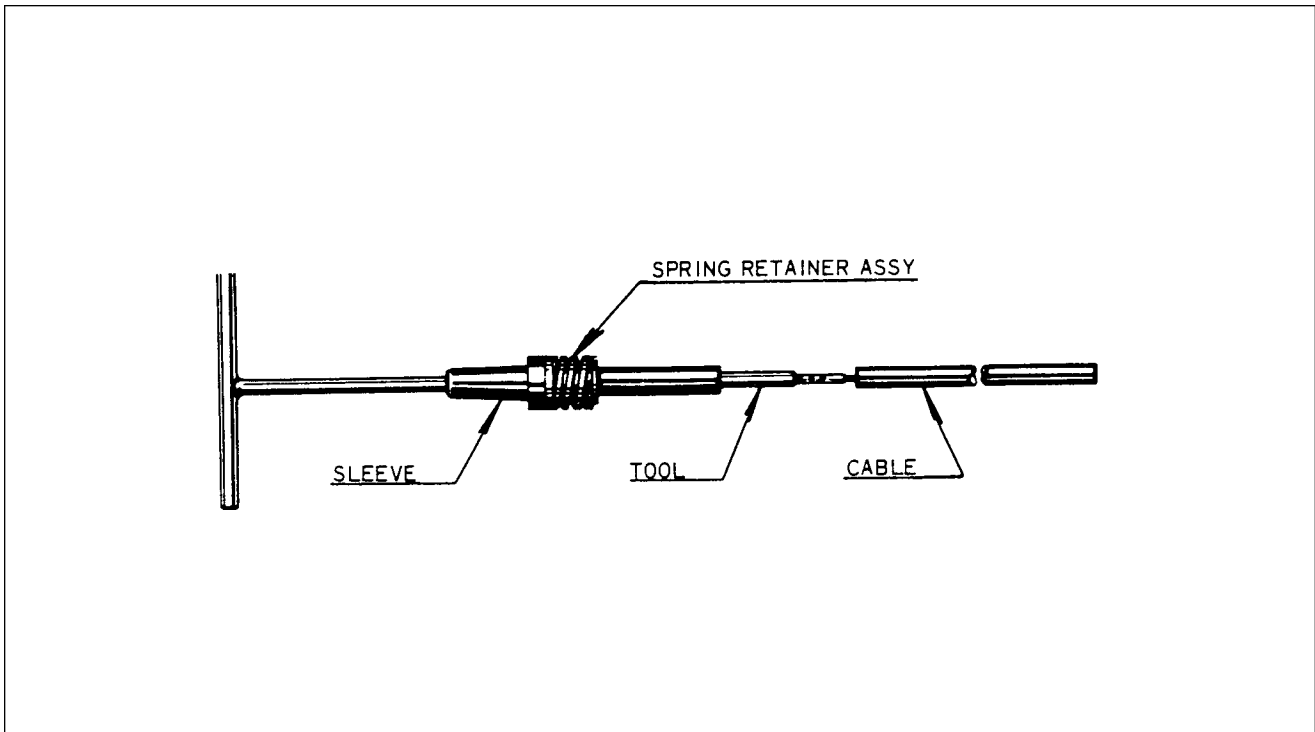

Figure 74-25. Using Assembly Tool
- c. Push fabricated tool through insulating sleeve and spring retainer assembly as shown in figure 74-25. Screw cable terminal into tool.